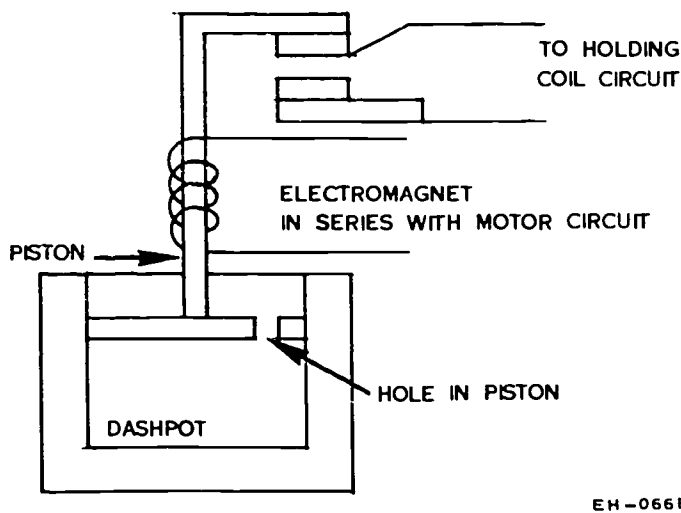

Figure 1-31. Magnetic overload relay.
b. Magnetic overload relays. The magnetic overload relay consists of a coil, a plunger, a dashpot, and a set of contacts. See figure 1-31. The coil is connected in series with the motor. When a determined amount of current passes through the coil, the magnetic field will pull the plunger up, causing the contacts to open. By adjusting the length of the plunger, the amount of current required to pull the plunger up can be varied. An oil-filled dashpot is added to provide a time delay. A plate on the bottom of the plunger is submerged in the oil and acts as a piston. The plate has holes in it that can be adjusted in size to change the time delay. When the coil pulls the plunger up, the oil must flow through the hole in the plate as the plunger rises. By changing the size of the hole, the time delay can be increased or decreased. Quick tripping is obtained through the use of a light grade dashpot oil.